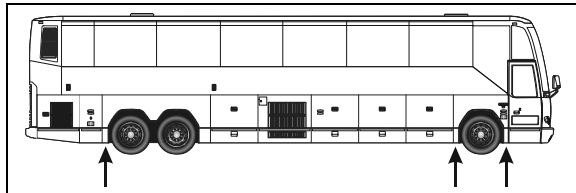

FIGURE 5: JACKING POINTS ON FRAME 18524
1. Raise vehicle by its jacking points on the body (fig. 5 or see Section 18, "Body" under heading "Vehicle Jacking Points"). Place jack stands under frame. Remove drive axle wheels (if required, refer to Section 13, "Wheels, Hubs And Tires".
1. Raise vehicle by its jacking points on the body (fig. 5 or see Section 18, "Body" under heading: "Vehicle Jacking Points"). Place jack under frame. Remove drive axle wheels (if required, refer to Section 13, "Wheels, Hubs And Tires").